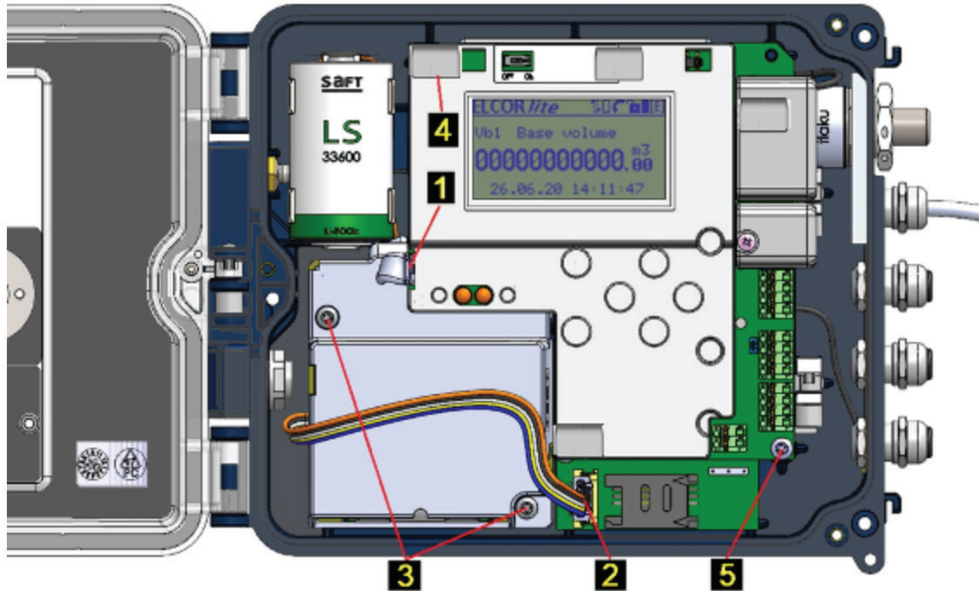

Fig. 31 Battery power supply for internal modem LTE-Cat1
b) Replacing the battery pack HBL-04U (see Fig. 31)